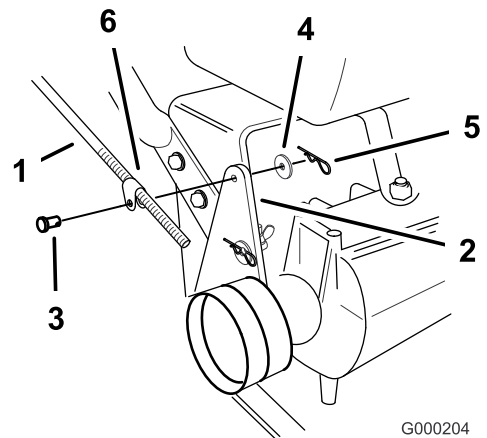

Figure 15
1. Remove the hairpin cotter, washer and clevis pin securing control rod fitting to the idler bracket (Figure 15).